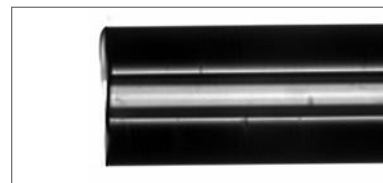

FIGURE 11 Typical cleave. Polyimide coating was removed after cleaving for clarity of image.
3. Pull gently on the tubing along its axis; it should easily separate at the point of contact. If it does not, repeat the procedure with a little more force. A typical cleave of 360  $\mu\text{m}$  OD, 75  $\mu\text{m}$  ID fused-silica tubing is shown in Figure 11. Residual surface irregularity is on average less than or equal to 10  $\mu\text{m}$ .